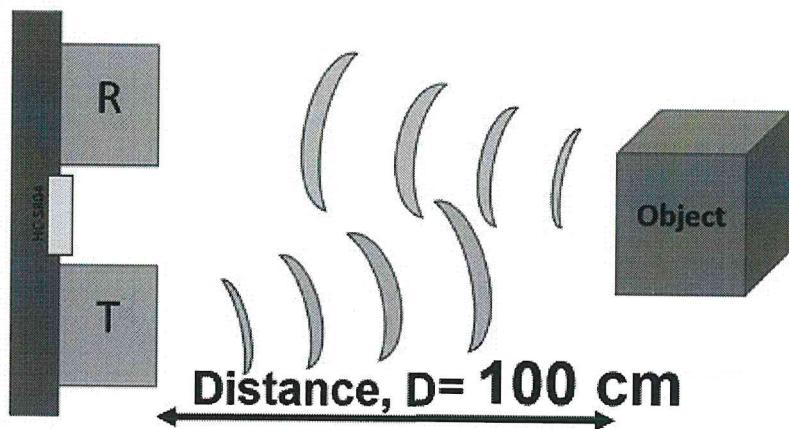

Figure A2c / Rajah A2c
- c) An ADC module inside PIC Microcontroller is used to convert analog signal from MaxSonar Ultrasonic sensor. The specification analog output from sensor is illustrated in Figure A2c. If the ADC module is used with following setting: Calculate Digital output, if sensor detects object 100 cm in front of sensor. Then Illustrate the 10-bit A/D conversion result using two format.